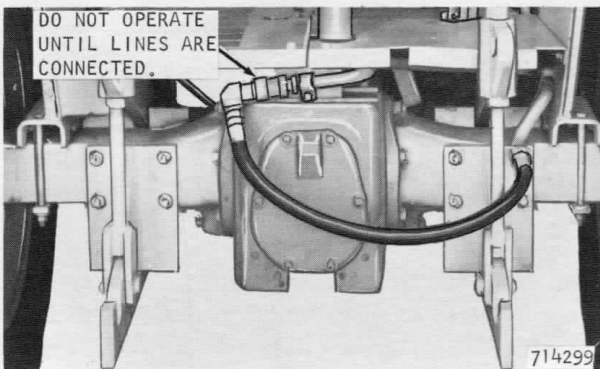

Figure 47 - Hydraulic Line Connection On Tractor
6. Connect the return hose to the pressure tube on the tractor, Figure 47. Be sure the coupling is fully engaged. Carefully drive the tractor away from the hitch.